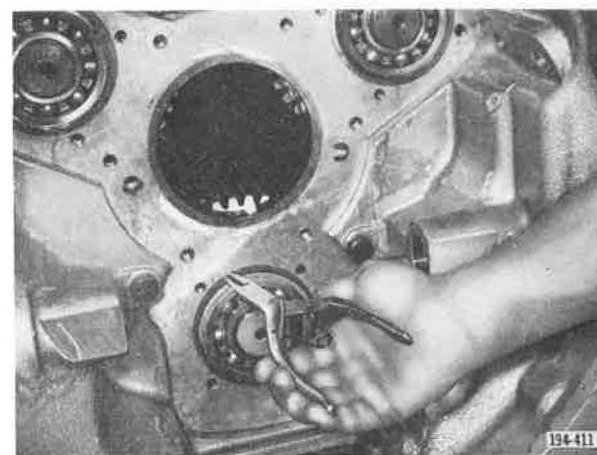

Figure 5-596. Removing Countershaft Front Bearing Positioning Snap Ring
8. Remove countershaft front ball bearing positioning snap ring. See Figure 5-596.